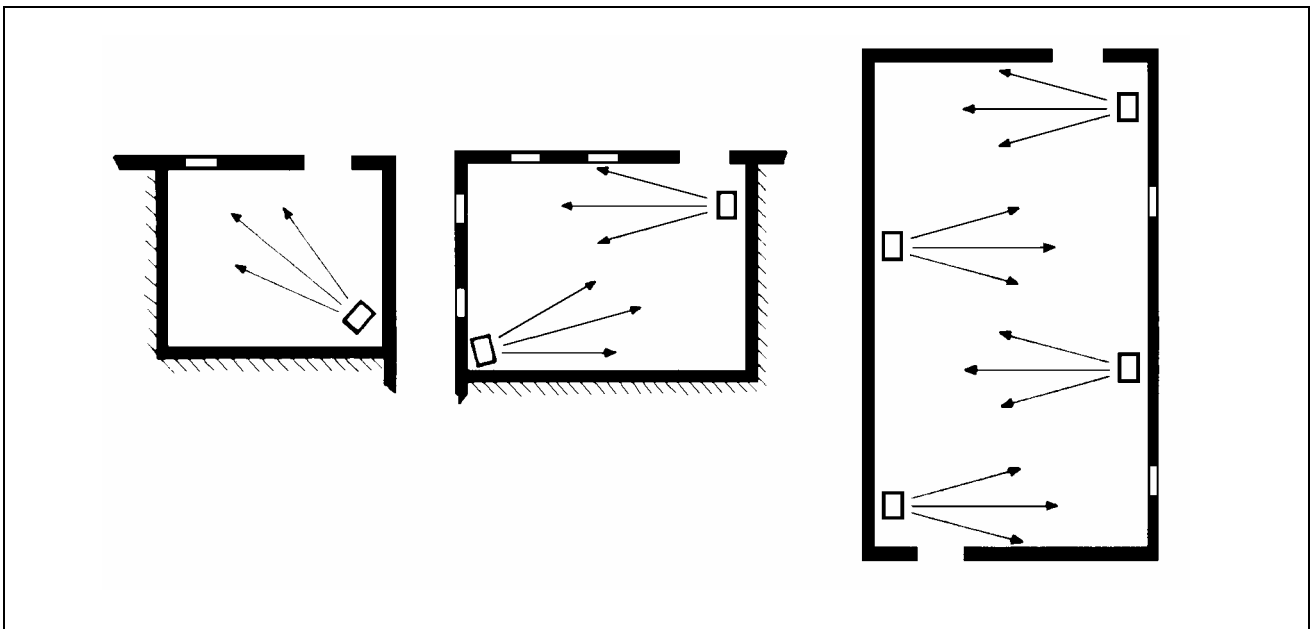

Figure 6 – EXAMPLES OF INSTALLATION
- for better heat distribution, if several machines are installed, create alternating flows of warm air (see Figure 6).